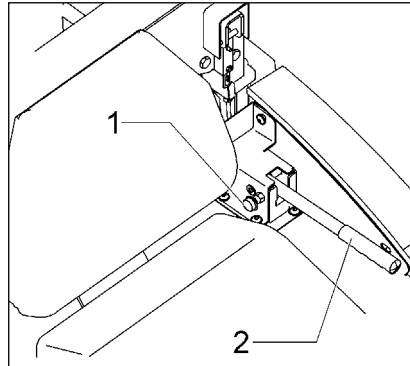

Fig.11
- Pull the safety knob (Fig. 11/1) of the release lever (Fig. 11/2).
- Release swinging of the dirt hopper by release lever (Fig. 11/2).